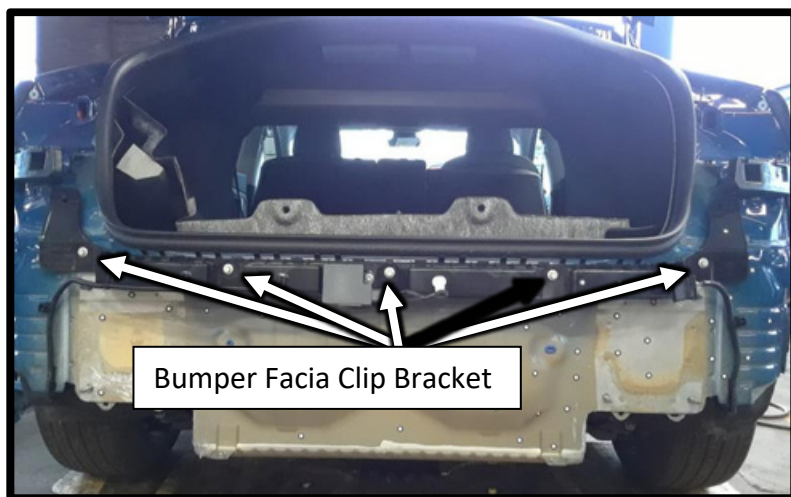

Figure 6.2
- The plastic bumper fascia clip bracket must be removed as shown in figure 6.2 and can be stored in the trunk.